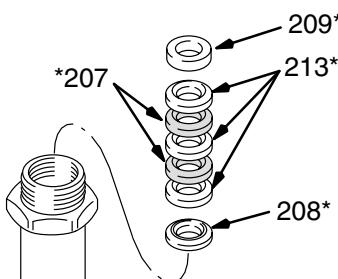

Fig. 28
- Place the male gland (208*) in the cylinder. Alternately stack the polyethylene (213*) and leather packings (207*) (lips facing down). Then place the female gland (209*) in the top of the cylinder. Seat the packings. See Fig. 28.